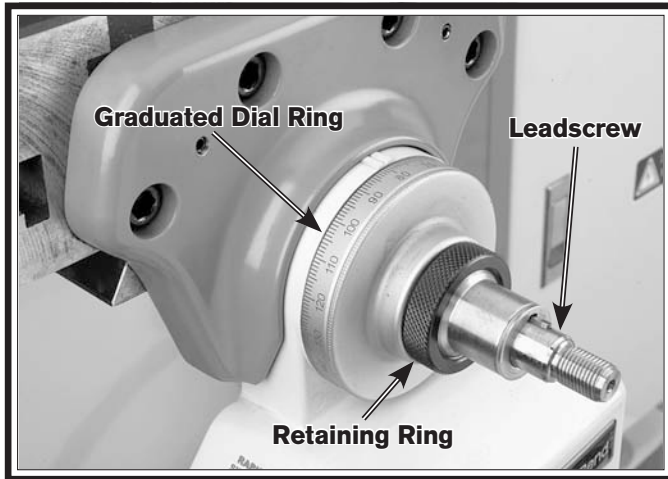

Figure 57. Power feed ball handle removed.
- Remove the hex nut and ball handle from the power unit end of the longitudinal leadscrew (see **Figure 57**).